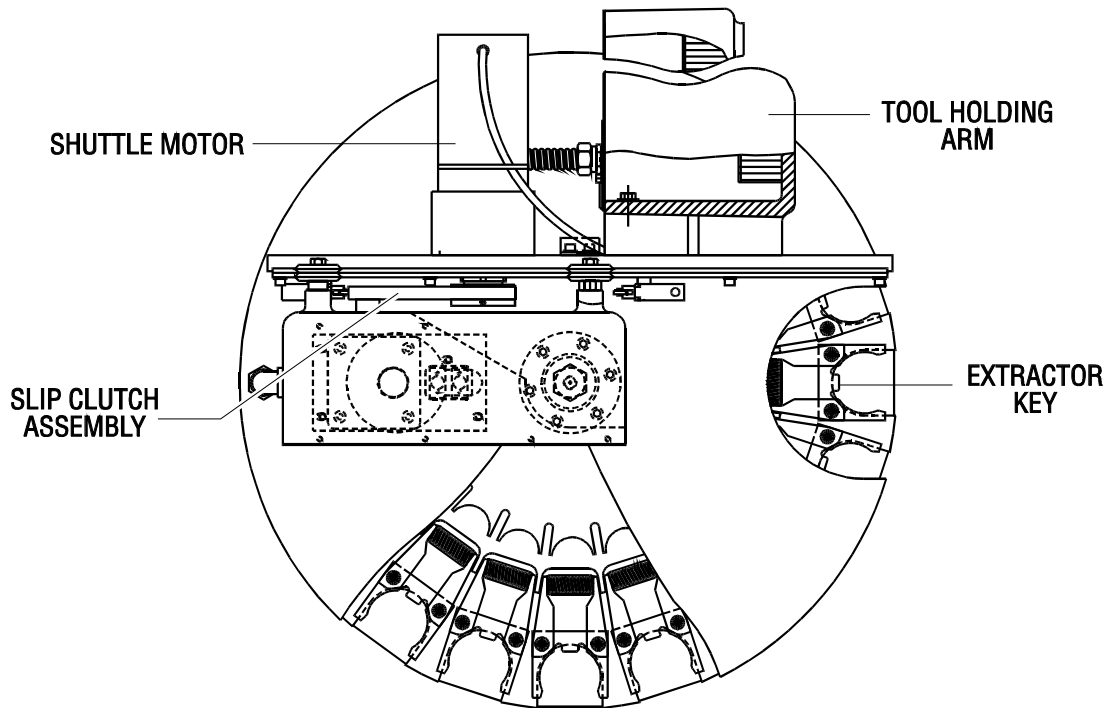

Fig. 12-3 Automatic Tool Changer - Mechanical Assembly (Top View)
5. Loosen the set screw that secures the slip clutch assembly to the shuttle motor (see Fig. 12-3).
6. Using a small two-jaw puller, pull the slip clutch assembly (see Fig. 12-3) off the shuttle motor shaft.